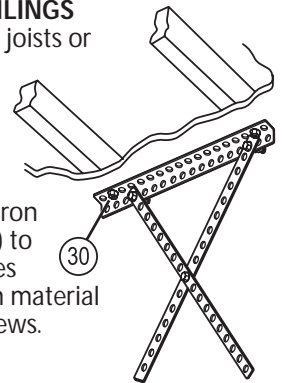

**Figure 6** Mounting methods for open beam and finished ceilings
- B** Find location of ceiling joist or truss above where Opener Power Head will be and estimate type and quantity of materials needed for your installation (**Figure 6**).